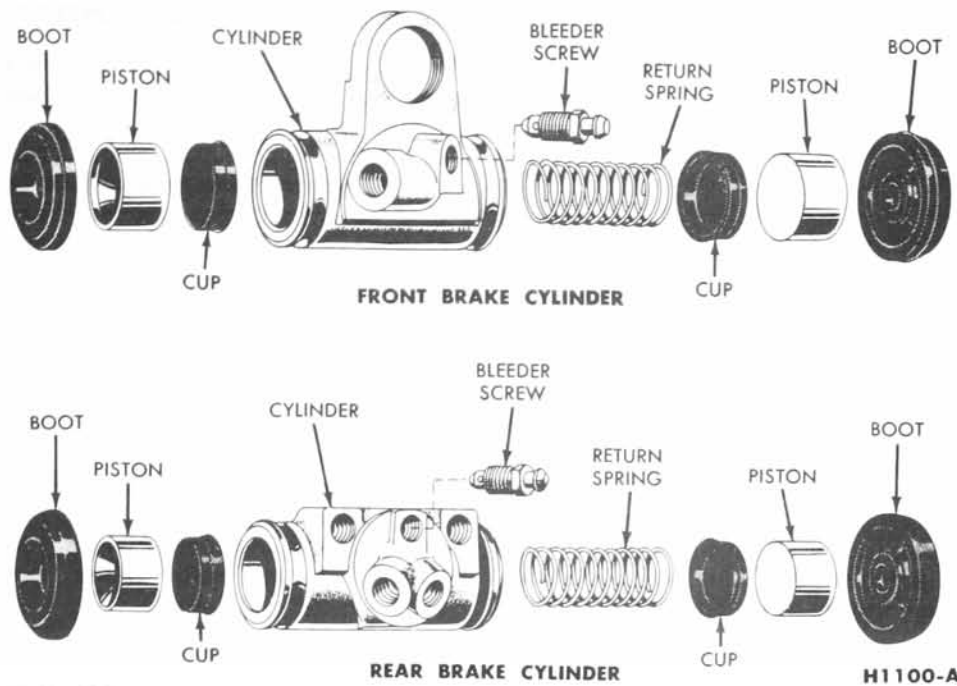

FIG. 12—Front and Rear Wheel Cylinders
1. Remove the links and the rubber boots from the ends of the brake cylinder. Remove the pistons, cups, and return spring from the cylinder bore (Fig. 12).
3. Insert the return spring, cups, and pistons into their respective positions in the cylinder bore (Fig. 12). Place a boot over each end of the cylinder. Bleed the brake system.